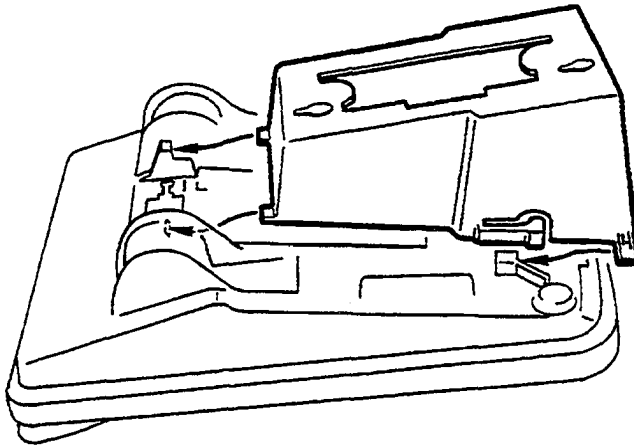

Figure 1-71 Mount Multiline Terminal to WMU-W (BK)/(SW) Unit
5. Mount the telephone onto the wall mounting unit by aligning the notches on the bottom of the Multiline Terminal with the rails on the wall mounting unit. Refer to Figure 1-71 - Mount Multiline Terminal to WMU-W (BK)/(SW) Unit.